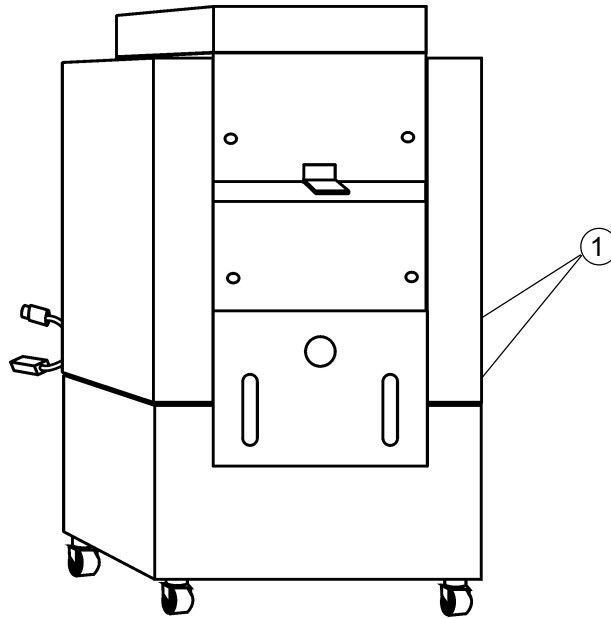

Figure 15
- Remove the front cover (1) on the Trimmer by loosen two 8 mm screws, figure 15